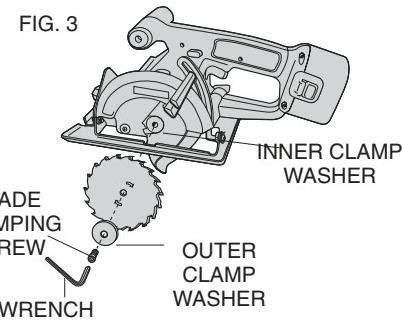

FIG. 3
- To attach blade, retract lower blade guard and place blade over spindle and against the inner clamp washer. Place outer clamp washer against the blade. (Blade must go on with the printed side out- teeth at bottom of blade pointing forward—FIG. 3).